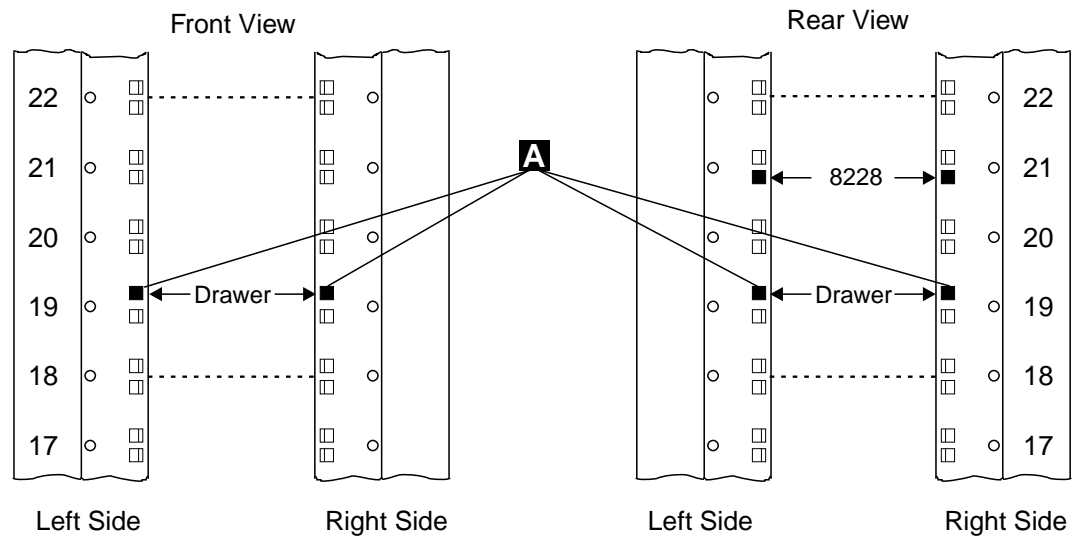

Figure 1-35. Installing Captive Nuts for the Service Drawer
12. ____ Refer to Figure 1-35, and if needed install four captive nuts **A** (PN 58G5766) on the front and on the rear side of the controller expansion.